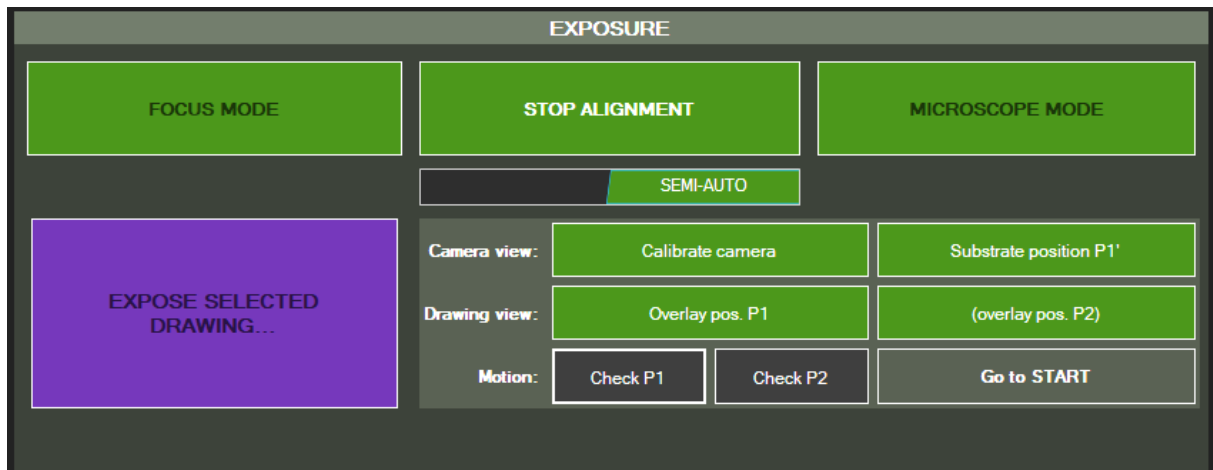

Figure 61 - Semi-auto alignment panel after defining P1', P1 and P2
- Alignment checking and adjustment of the substrate rotation angle q : in order to check the validity of the adjustment, click on **Check P1** (Figure 61). The stage will then move to align P1' (on the substrate) with P1 (on the drawing) as shown in Figure 56f. If P1 and P1' are
- Finishing the alignment setting: click on **Go to START** (Figure 61) and quit the alignment mode by clicking on **Stop alignment**